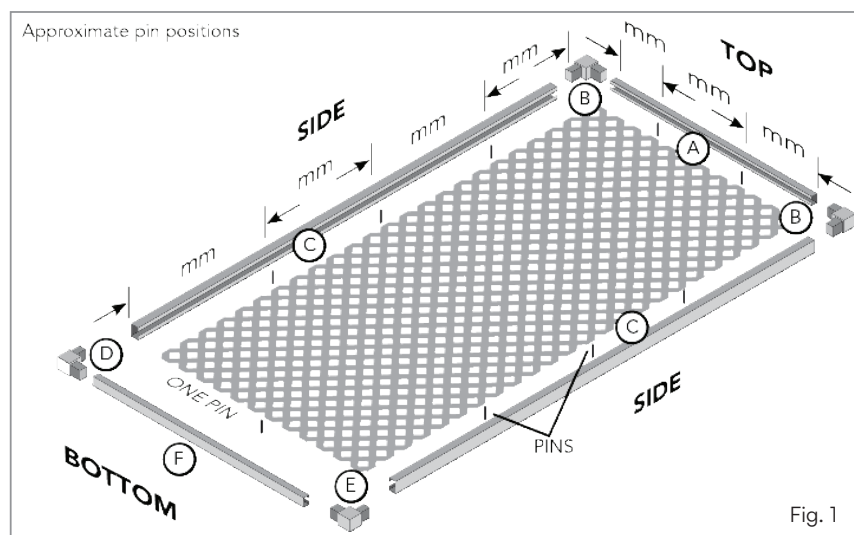

Fig. 1
- Use three pins (evenly spaced 300-600mm apart) on each long side and two pins (spaced 400mm apart) on the top short side. Only place one pin in the centre on the bottom edge (**Fig. 1**)
2. Assemble the C-Channel Kit (see Fig.1)
- We recommend using three brackets on each long side and two brackets on the short side (**Fig. 1**).